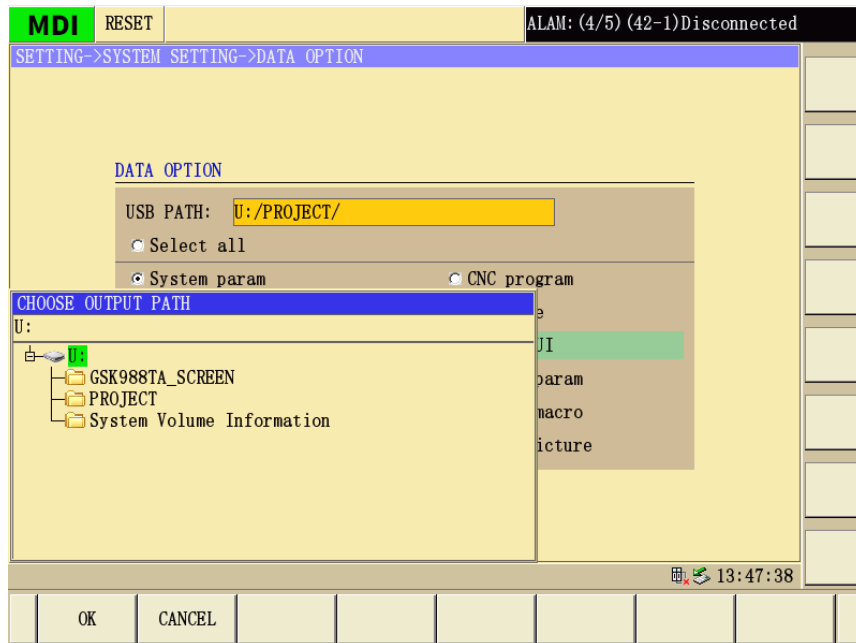

Fig. 1-92
- (1) Navigate to the "  ->  ->  " page of the system.
- (2) With Level 2 permissions, insert the USB flash drive, and check the items to be exported (such as "Custom UI") on the Data Operation page.
- (3) Click **SELECT USBDIR**, then choose the location to store the project folder. We can select "U:", which is the root directory of the USB flash drive, as illustrated in Figure 1-92.